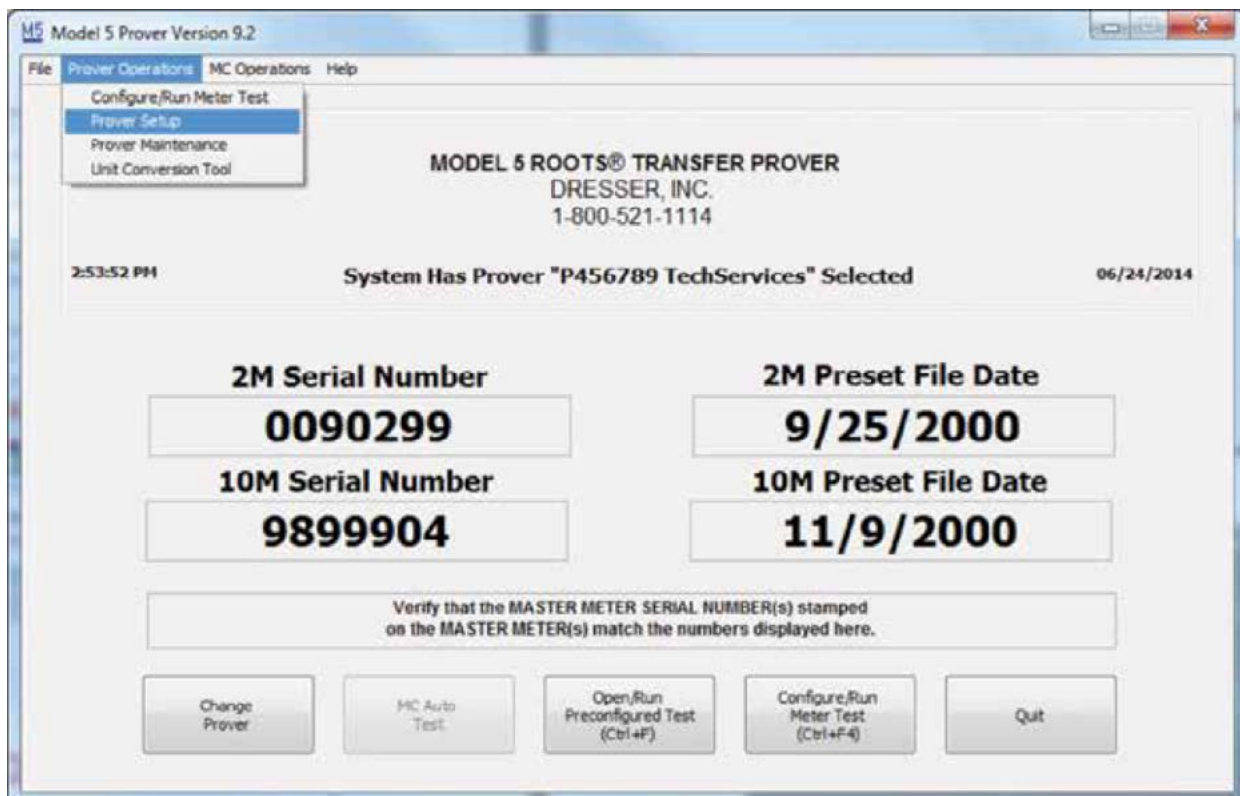

Figure 14: Prover Setup Selection
2. On the upper, left-hand corner, select “Prover Operations” and “Prover Setup” as shown in Figure 14.